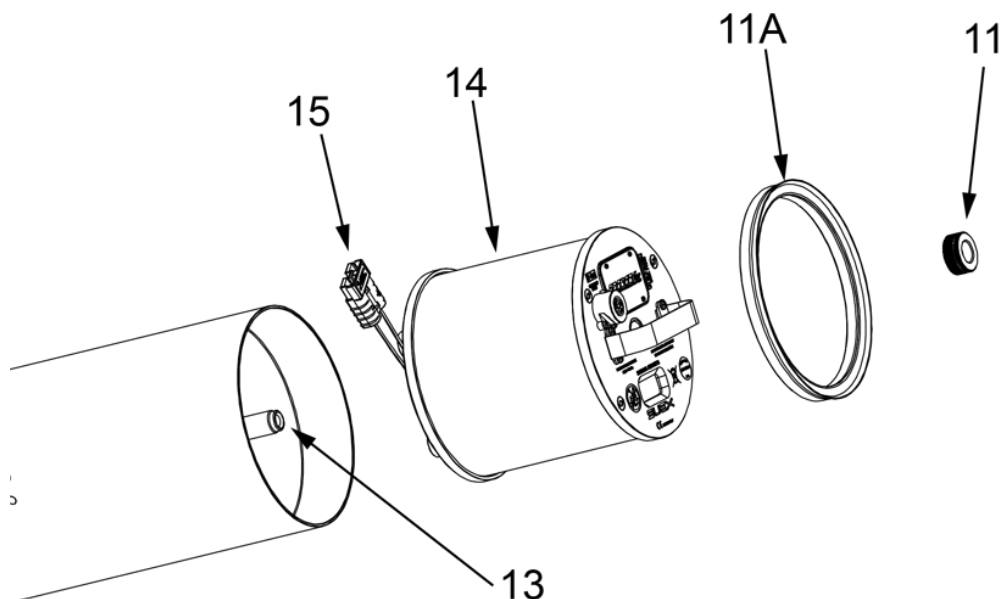

Fig 28 - Battery extraction
Once the cap has been removed, unscrew the ring nut (11), extract the drop drop ring (11A) and remove the battery (14) by pulling it upwards by sliding it off the rod (13 - Fig 28 - on p. 25). When the battery is completely removed, disconnect the red connector (15).